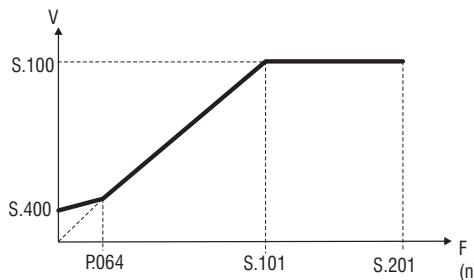

Figure 7.3.3: Manual Boost Voltage
P.064 parameter represents the return point of the output voltage, on the linear characteristic of V/f characteristic (see figure 7.3.3).